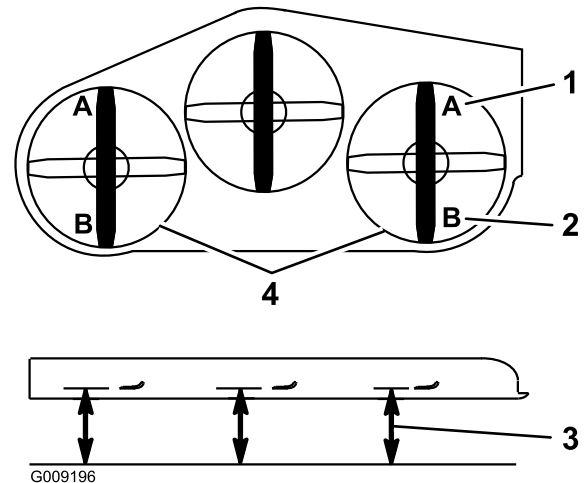

Figure 73
9. On both sides of the deck, measure from the level surface to the front tip of the blade (Position A) as shown in Figure 73.
- On both sides of the deck, measure from the level surface to the back tip of the blade (position B) as shown in Figure 73.